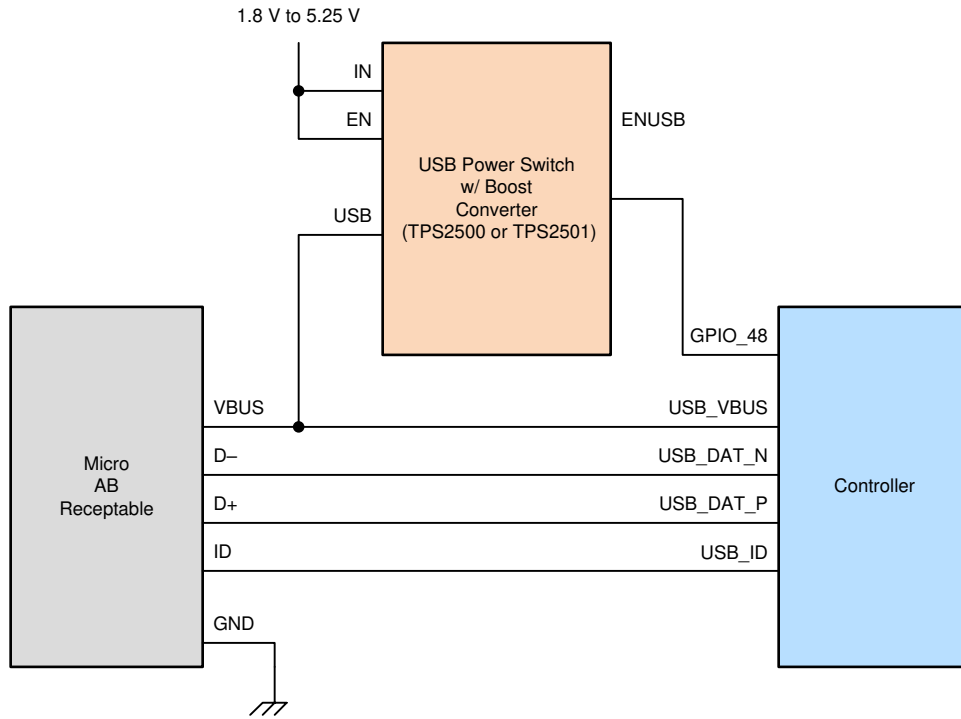

Figure 6-3. External USB Switch Example for DLPC6540 Controller as USB OTG Master
(1) Referenced to VAD33_USB (I/O type 11)
(2) When used as a master as part of USB OTG, the DLPC6540 requires an External USB Switch to provide the USB 5-V power. The example shown in Figure 6-3 makes use of a TI TPS2500/2501 device. The example figure does not describe the required ancillary components (such as, resistors and capacitors). For this information please refer to the USB Switch logic datasheet for the selected device. The External USB Switch is not required for product configurations that are supporting USB slave mode only.